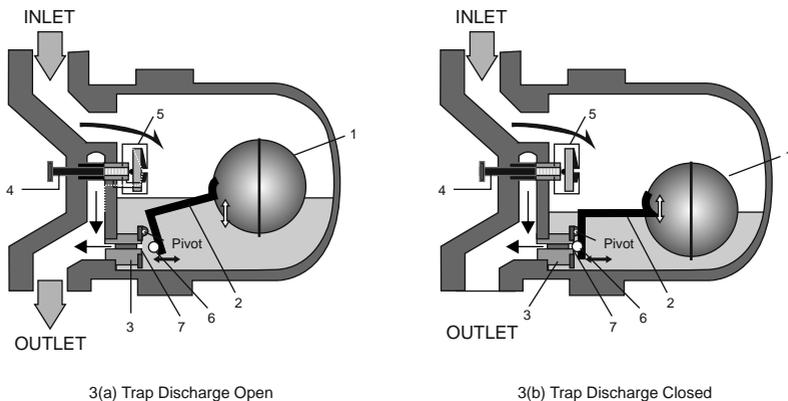

Figure 3: Float trap working
#### 4. Product Working Principle : (Refer to Figure 3)
Figure 3 shows a simple float trap operational representation. A float trap works on the Buoyancy Principle. Condensate enters the trap body and raises the float (1). The position of the float (1) depends upon the level/load of condensate (flowrate). The float trap continues to discharge condensate continuously and doesn't allow back up of condensate as long as the load is within the discharge capacity.
\*The float trap in the figure 3. shows a TV+SLR assembly. SOFT54 comes with only SLR assembly.